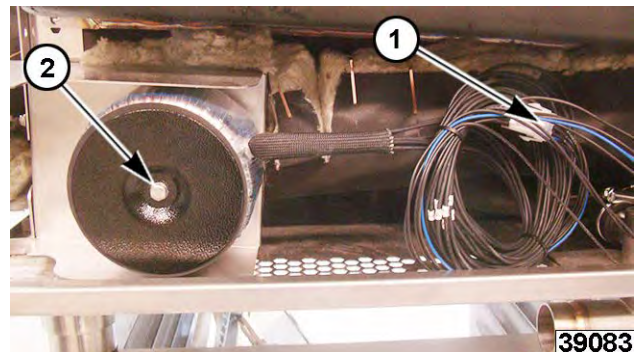

Fig. 77
2. Disconnect wire connector (1, Fig. 77).
3. Remove mounting screws (2, Fig. 77).